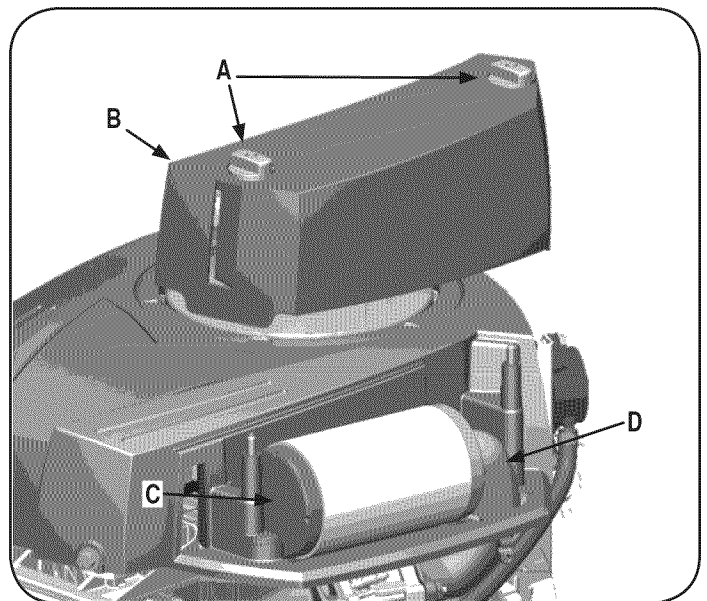

Figure 12
1. Remove the fasteners (A) and the air filter cover (B). See Figure 12.
2. To remove the filter (C), lift the end of the filter and then pull the filter